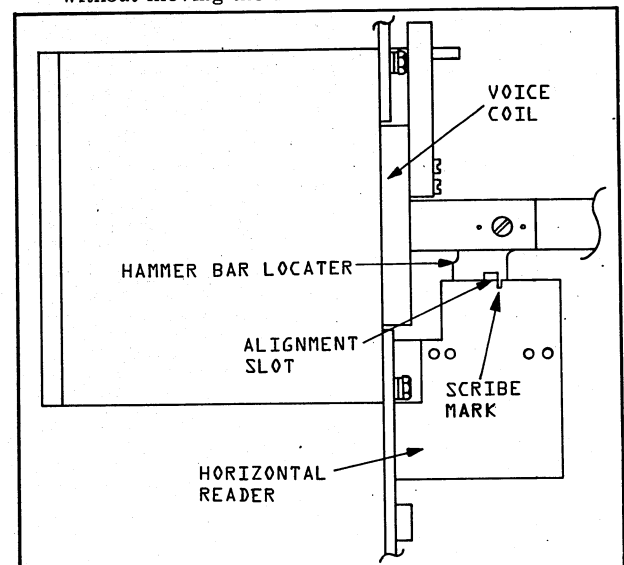

FIGURE 5-18. VOICE COIL HOME POSITION
10. Check that the scribe mark on the horizontal reader and the alignment slot in the hammer bar locater are positioned as shown in Figure 5-18.